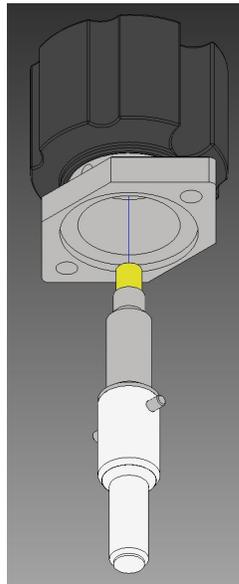

FIGURE F. 6. - STEM REMOVAL
6. Rotate the stem clockwise to unscrew the wetted stem, threaded stem and corresponding parts from the rest of the assembly (see Figure F.6.)